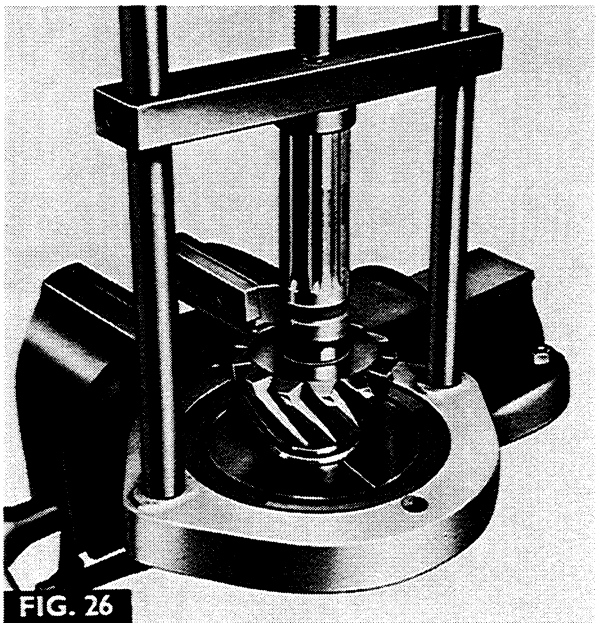
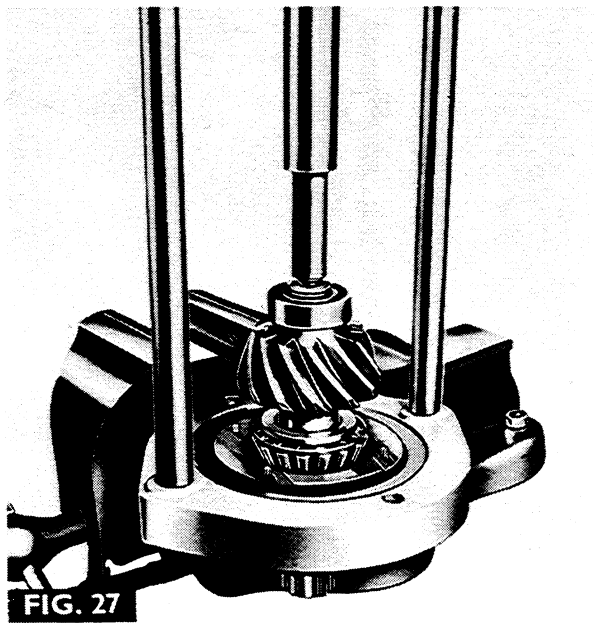
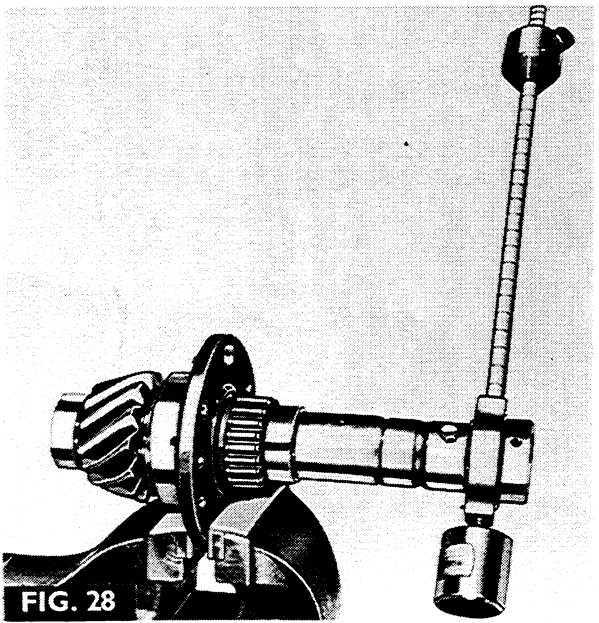

FIG. 26
FIG. 27
FIG. 28
1. Fig. 26. Using the MF 200 hand press and adapter MF 200-23 as shown, press the pilot bearing (16) on to the pinion.
2. Secure the pilot bearing with a new snap ring (14).
3. Fig. 27. Using the MF 200 hand press and adapters MF 200-23 and MF 200-25, press the bearing (17) on to the pinion.
4. Locate the pinion in its housing (18), then fit the front bearing cone (19), the splined hub (21), a new tab washer (24) and the locking ring (25).
5. Fig. 28. Hold the housing in a soft faced vice, then assemble the CP 4030 pre-load gauge as shown. Adjust the pre-load gauge to 0,23 kg-m (1.67 lb-ft, 20 lb-in).